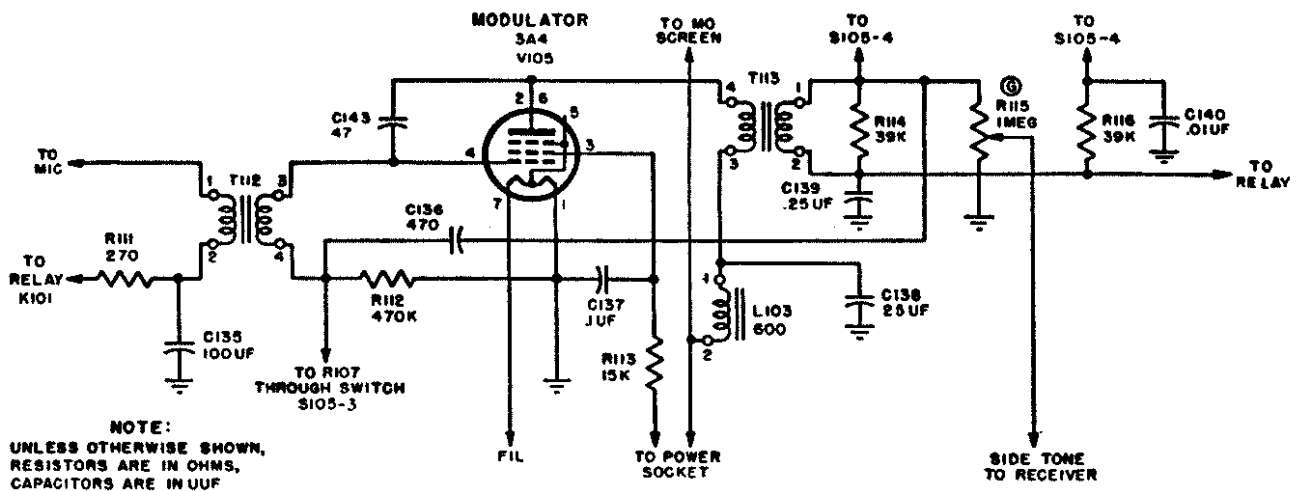

Figure 78. Modulator stage V105, simplified schematic.
95. Modulator Stage V105, Tube Type 3A4 (fig. 78)